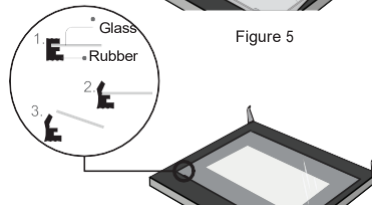

Figure 6
6.) After pulling out the inner glass, please take out the middle layer of glass as shown in Figure 6.